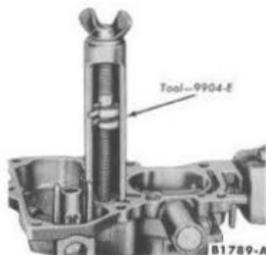

FIG. 22—Power Valve Piston Removal
8. Remove the power valve piston assembly. Use Tool 9904-E to pull the piston and retaining washer from the air horn (Fig. 22).